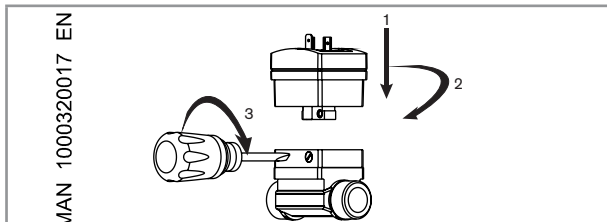

Fig. 1: Assembling the SE30 HT and the sensor-fitting S030 HT
- Assemble the electronic module and the sensor-fitting according to Fig. 1.